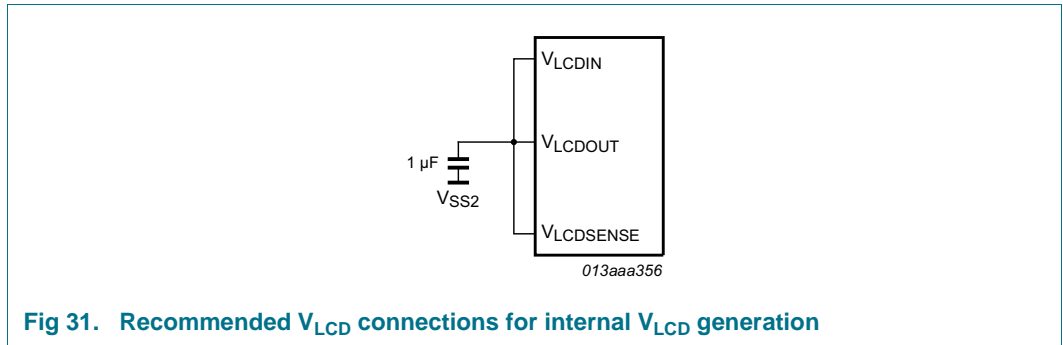
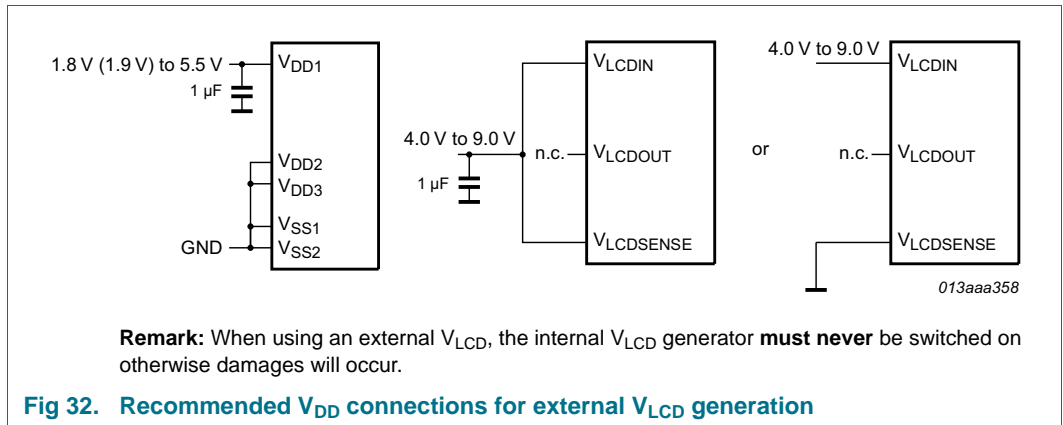

Fig 31. Recommended  $V_{LCD}$  connections for internal  $V_{LCD}$  generation
Fig 32. Recommended  $V_{DD}$  connections for external  $V_{LCD}$  generation
**$V_{LCDOUT}$**  — This is the  $V_{LCD}$  output if  $V_{LCD}$  is generated internally. It is the output of the charge pump. In this case pin  $V_{LCDOUT}$  must be connected to  $V_{LCDIN}$  and to  $V_{LCDSENSE}$  (see Figure 31).  $V_{LCDOUT}$  must be left open circuit when  $V_{LCD}$  is supplied from an external source (see Figure 32).
**$V_{LCDSENSE}$**  — When using the internal  $V_{LCD}$  generation, this pin must be connected to  $V_{LCDOUT}$  and  $V_{LCDIN}$  (see Figure 31). When using an external  $V_{LCD}$  supply it must be connected to  $V_{LCDIN}$  or to ground (see Figure 32).